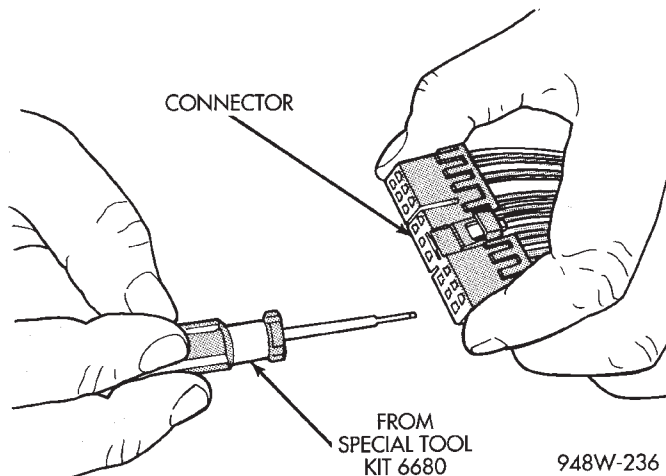
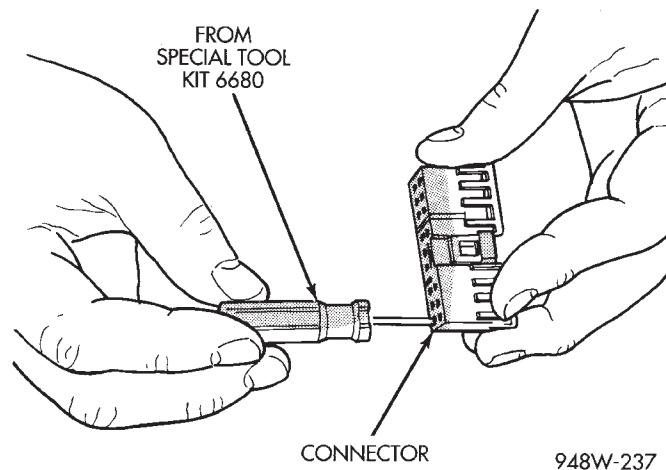

Fig. 11 Terminal Removal
Fig. 12 Terminal Removal Using Special Tool
(4) Position the connector locking finger away from the terminal using the proper pick from special tool kit 6680. Pull on the wire to remove the terminal from the connector (Fig. 11) (Fig. 12).
(5) Reset the terminal locking tang, if it has one.
(6) Insert the removed wire in the same cavity on the repair connector.
(7) Repeat steps four through six for each wire in the connector, being sure that all wires are inserted into the proper cavities. For additional connector pin-out identification, refer to the wiring diagrams.
(8) Insert the connector locking wedge into the repaired connector, if required.
(9) Connect connector to its mating half/component.
(10) Connect battery and test all affected systems.